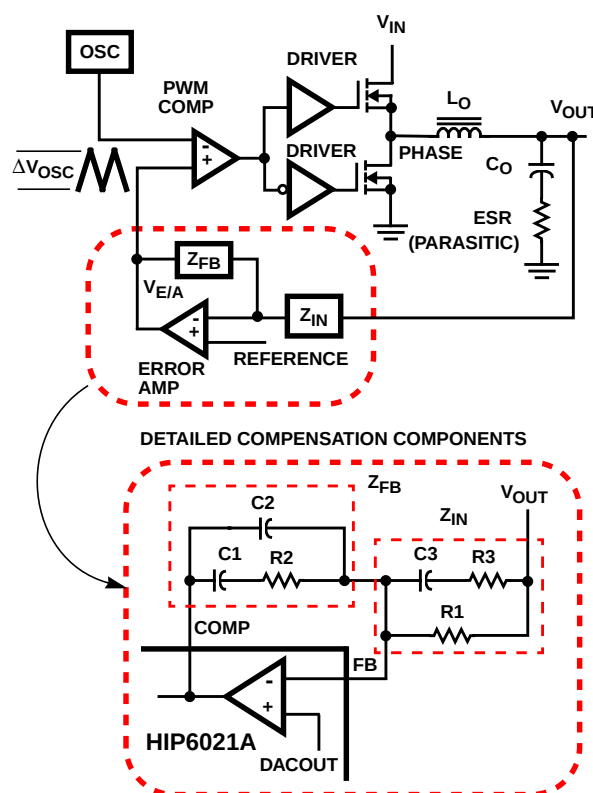
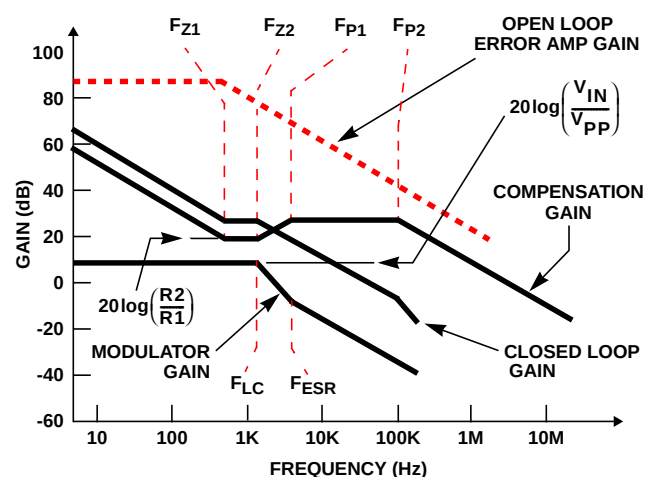

FIGURE 8. VOLTAGE-MODE BUCK CONVERTER COMPENSATION DESIGN
FIGURE 9. ASYMPTOTIC BODE PLOT OF CONVERTER GAIN
Figure 8 highlights the voltage-mode control loop for a synchronous-rectified buck converter. The output voltage (V_{OUT}) is regulated to the Reference voltage level. The reference voltage level is the DAC output voltage (V_{DACOUT}). The error amplifier (Error Amp) output ($V_{E/A}$) is compared with the oscillator (OSC) triangular wave to provide a pulse-width modulated (PWM) wave with an amplitude of V_{IN} at the PHASE node. The PWM wave is smoothed by the output filter (L_O and C_O).
Figure 9 shows an asymptotic plot of the DC-DC converter's gain vs frequency. The actual Modulator Gain has a high gain peak dependent on the quality factor (Q) of the output filter, which is not shown in Figure 8. Using the above guidelines should yield a Compensation Gain similar to the curve plotted. The gain. Check the compensation gain at F_{P2} with the capabilities of the error amplifier. The Closed Loop Gain is constructed on the log-log graph of Figure 9 by adding the Modulator Gain (in dB) to the Compensation Gain (in dB). This is equivalent to multiplying the modulator transfer function to the compensation transfer function and plotting the gain.